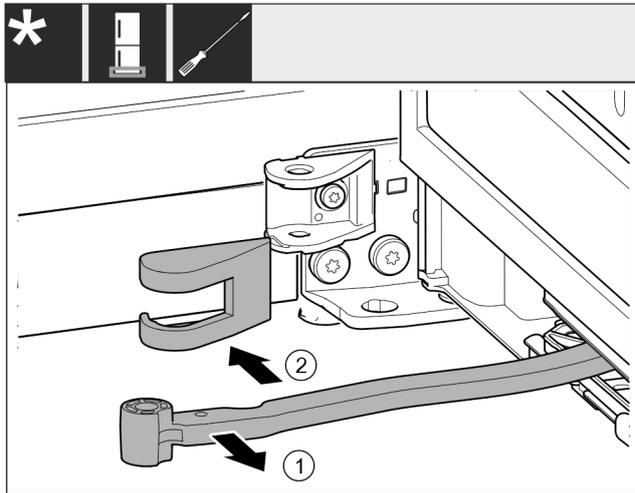

Fig. 19
- ▶ Turn the joint Fig. 19 (1) towards the door.
- ▶ Remove the swap bearing block cover Fig. 19 (2).